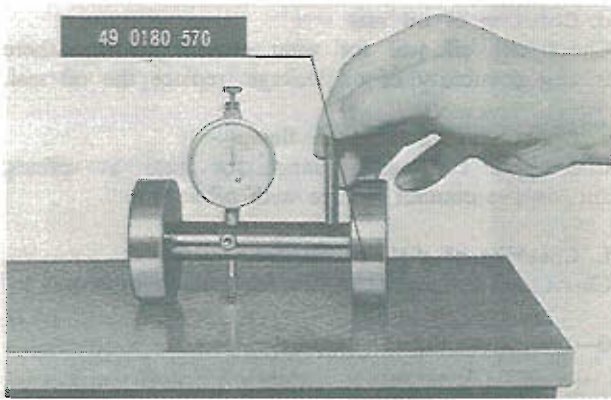

Fig. 9-26 Setting of gauge
2. Rotate the **gauge body** slowly back and forth until the dial indicator reads greatest deflection. At the point of greatest deflection, set the dial indicator to **ZERO**. Repeat rock action of gauge body to verify the **ZERO** setting, as shown in Fig. 9-26.